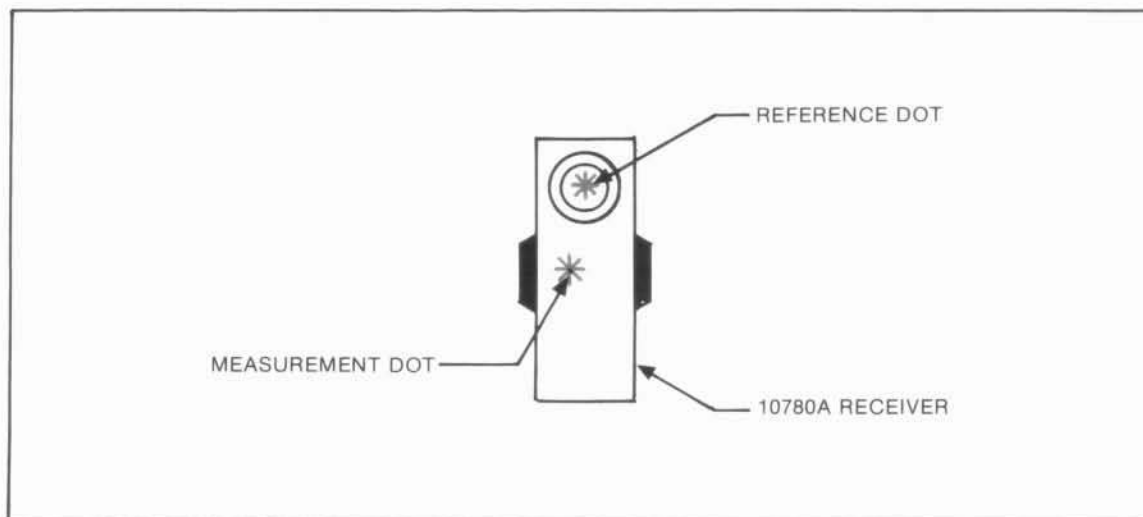

Figure 6-27. Results of Reflector Movement
- e. *Figure 6-27* illustrates a typical two-dot pattern on the receiver that is seen after the optics move. Now adjust the laser beam by angularly moving the beam until the dots again overlap at the receiver. This adjustment of the laser beam can be done by moving the laser head, beam bender or interferometer depending on the optical layout.